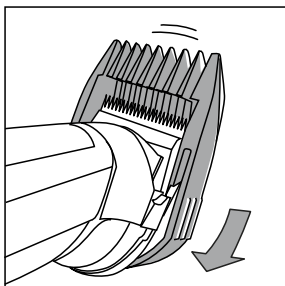

Fig. 1.
- Slide the trimmer teeth and the top of the blades into the space under the comb guide. (Fig. 1)